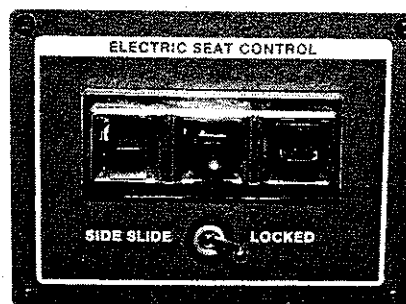

Figure 2-14. Seat Controls
Electrically and air-operated six-way seat adjustments are built into the pilot's and co-pilot's seats. A typical control panel is shown in figure 2-14.
1. **Power and Sound Controls** — These controls, shown in figure 2-14 and described in the Cassette Deck section, are used in the radio mode as well. (See preceding section on Controls, paragraphs 2 through 5, for power **ON/OFF**, volume balance, fader, bass and treble controls, and paragraph 11 for the loudness **LD** control. The FM/Stereo light (18) will go **ON** when stereo radio is **ON**.)
2. **To Select waveband** — Press **IN** the AM/FM button (9) to get FM, and press to release for AM (button **out**). The appropriate AM or FM light (21 or 22) on the left side of the glass dial will indicate the selected waveband.
- I. **Manually** — Turn the tuning knob (3) to left or right and **release**, to change frequency by steps. To scan frequencies, **turn** the knob to left or right and **hold**. It starts slowly, then increases speed of scan. In either method, the clock dial will indicate the frequency.